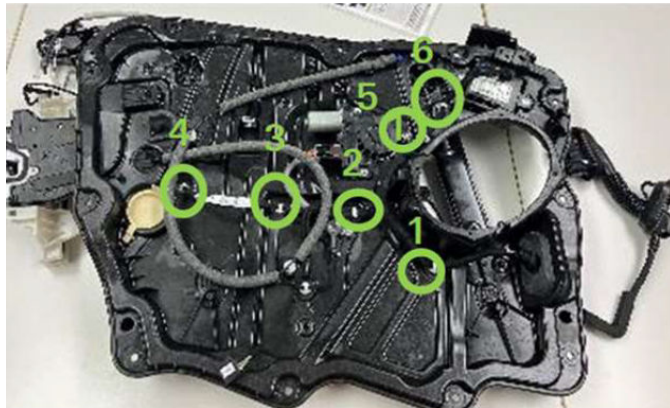

Fig. 29
32. Connect the six wire harness clips to the carrier plate Fig. 29.